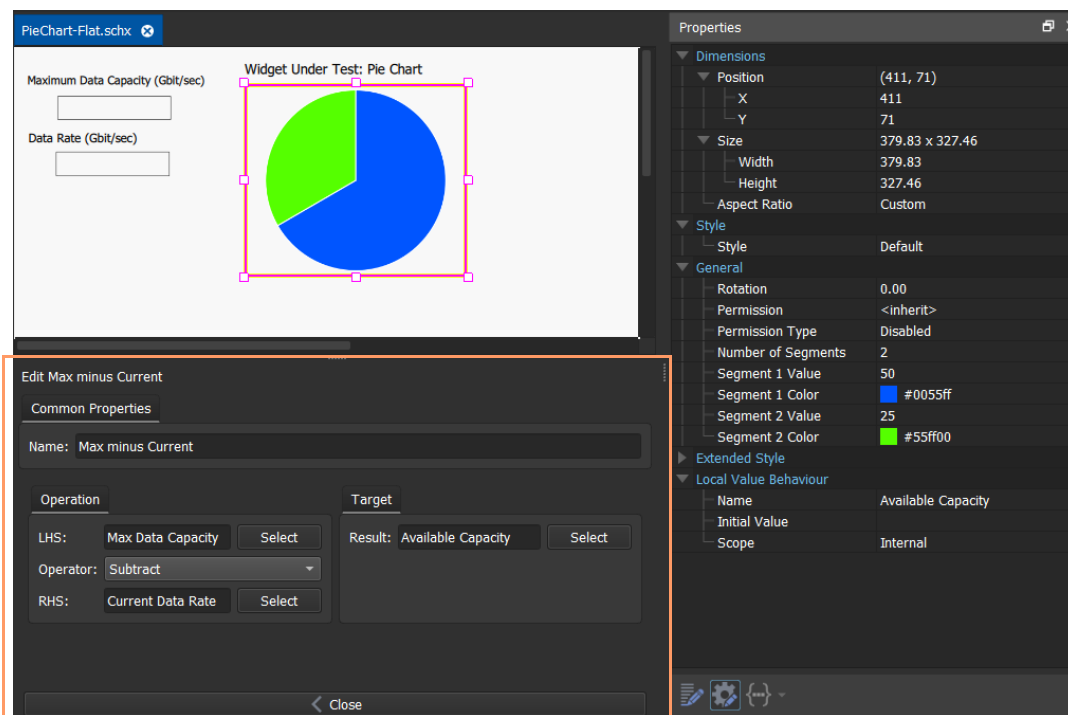

Fig. 3-10: Edit Math Binding Screen
- 4 Double-click on the **Math** Binding box. A **Edit Math** Binding edit screen is shown. See Figure 3-10.